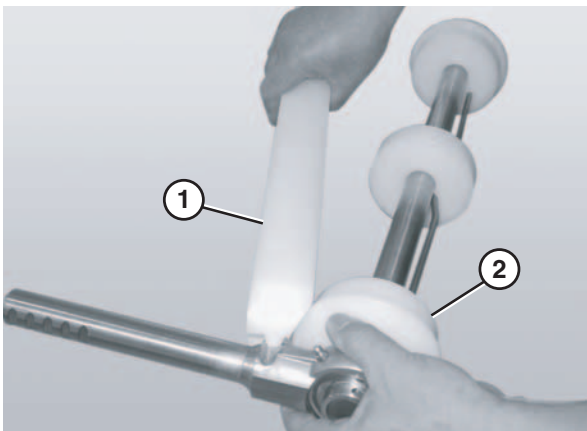

Figure 77
- Remove the guard bar (**Figure 77, item 1**).
- Remove the pucks (**Figure 77, item 2**).